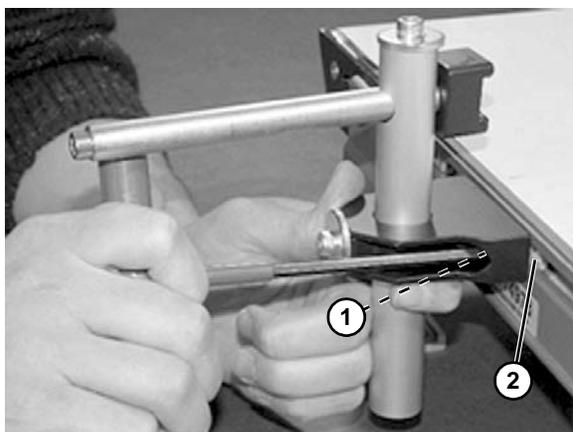

Figure 33
2. Tighten screws (**Figure 33, item 1**) making sure t-nut (**Figure 33, item 2**) rotates and engages inside of the t-slot.